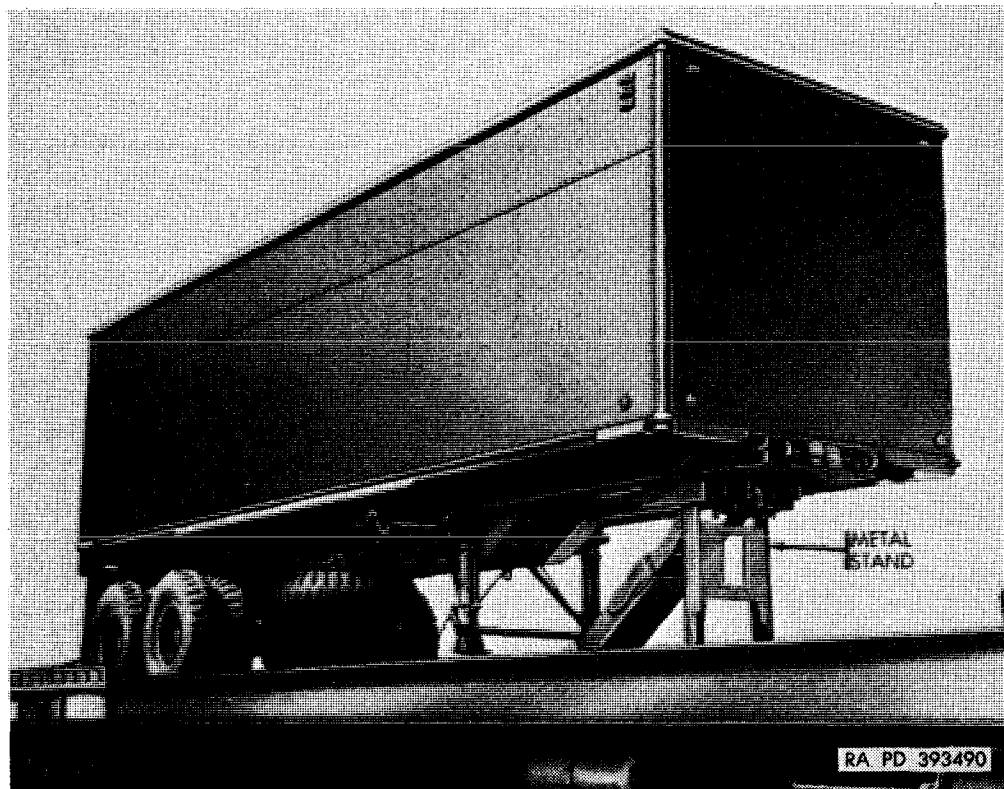
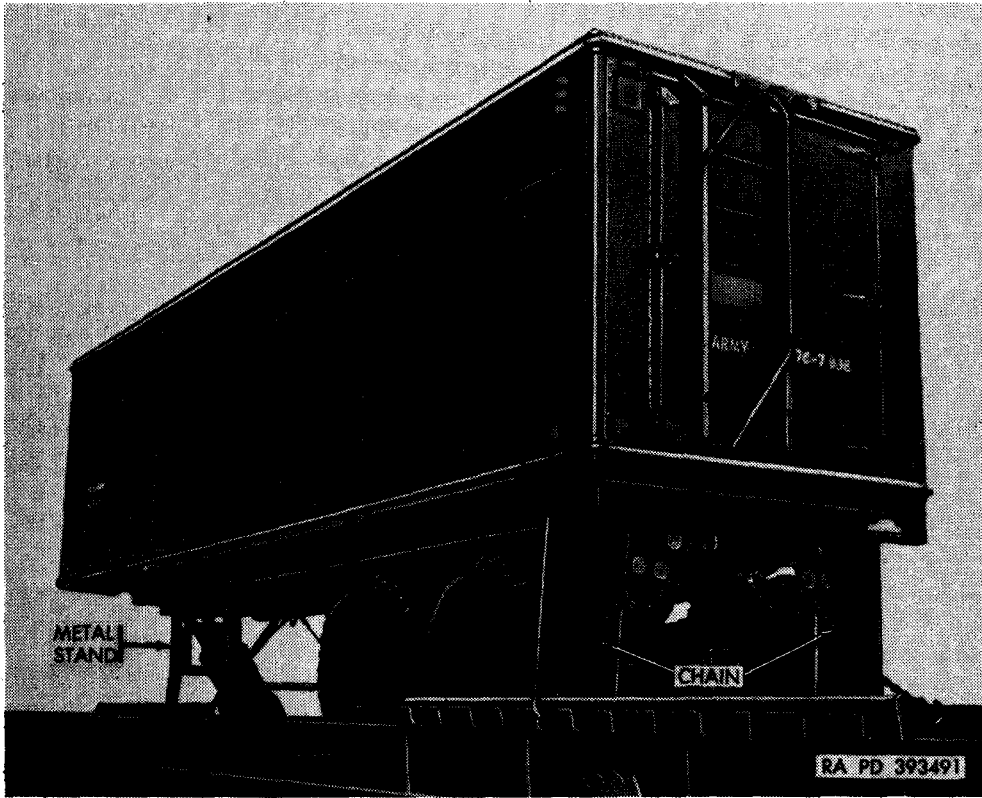

Figure 6-1. Semitrailer M128A1 loaded on TTX railroad car for shipment - right front view
Figure 6-2. Semitrailer M128A1 loaded on TTX railroad car for shipment - left rear view
- (5) **Packaging.**
- (6) **Marking.** Refer to AR 746-80 for Marking of Supplies for Shipment.
c. Securing Semitrailers on TTX or "Piggy-Back" Railroad Cards for Transportation. The semitrailers are all secured on TTX or "Piggy-Back" railroad cars as shown in figs. 6-1 and 6-2. There are only three points of attachment. The kingpin of semitrailer is secured to a metal stand, which is a part of the railroad car (fig. 6-1). Chassis are furnished with the railroad car and are secured to the main frame of the semitrailer at the rear portion (fig. 6-2) to prevent shifting of the rear of semitrailer. These chains are attached to the sides of the railroad cars.